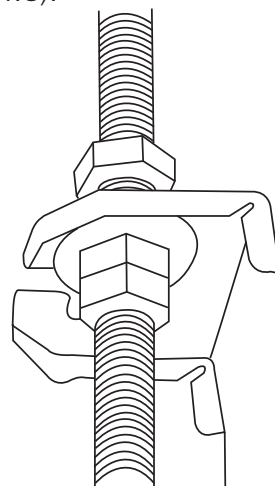

Fig. 4.8
8. Mount the indoor unit with at least two people to lift and secure it. Insert suspension bolts into the unit's hanging holes. Fasten them using the washers and nuts provided. (See Fig. 4.8).